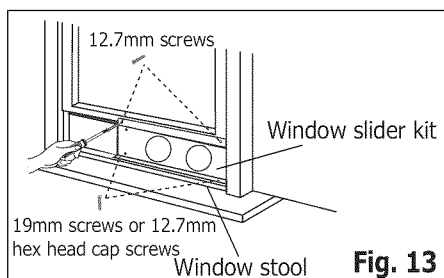

Fig. 13
3. Close the window sash securely against the window slider kit. (Fig. 13)
4. Drive two 12.7 mm screws to secure the window slider kit to the window sash. (FIG. 13)
5. Secure the window slider kit to the window stool (FIG. 13):